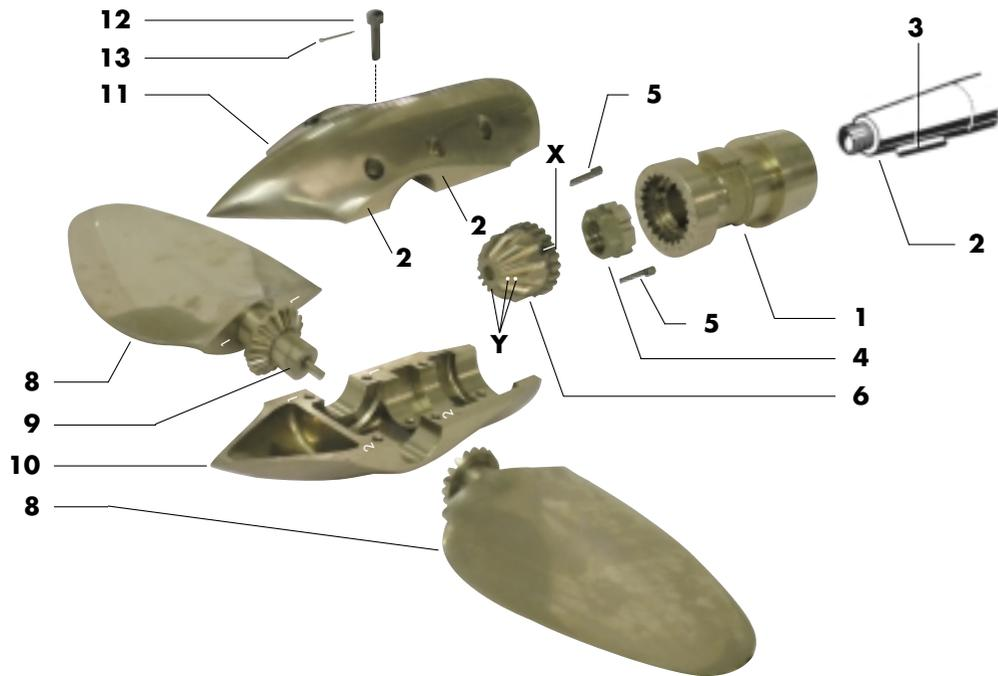

Fig. 2
C) On the bottom of the central gear [6] there is a groove on the bottom of one of the teeth, this represents the "X" on the chart in figure 2. Place the tooth with the groove into the corresponding lettered gear on the hub [1].
D) Next engage the gear on the blades with those of the central cone gear as shown in figure 2. When engaging the gears make sure that the correct letters on the blades are inserted into the corresponding "." and "." in the depth of the teeth of the central cone gear.